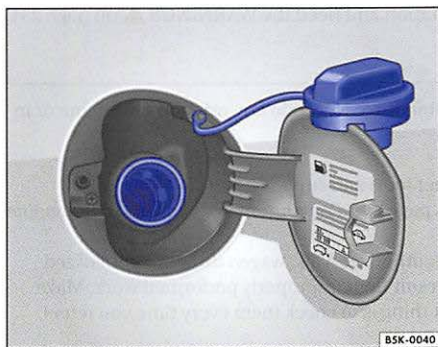

Fig. 148 Fuel tank cap placed on the open fuel filler flap.
- Unscrew tank cap counter-clockwise and remove and place on the top of the fuel filler flap $\Rightarrow$ fig. 148.